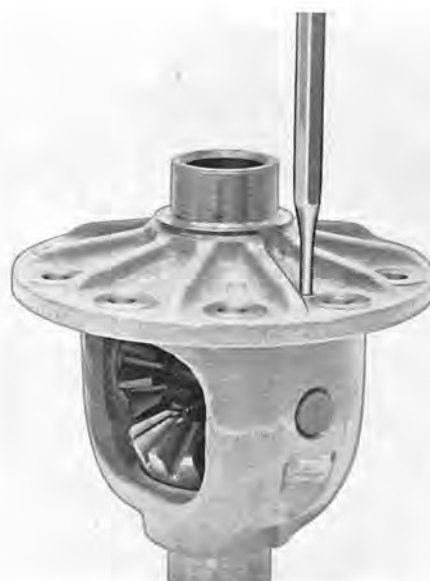

Fig. 4-151. Removing lock pin
3. Drive out the lock pin, see Fig. 4-151, and then the shaft for the differential gears. Take out the differential gears and the thrust washers.